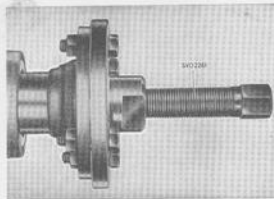

Fig. 4-23. Removing flange
2. Slacken the flange nut. Use 2854 as a counterhold for cars fitted with B 20 A, B and F and 2837 for cars fitted with B 20 E engines, see Fig. 4-22. Pull off the flange. Use puller 2261, see Fig. 4-23.